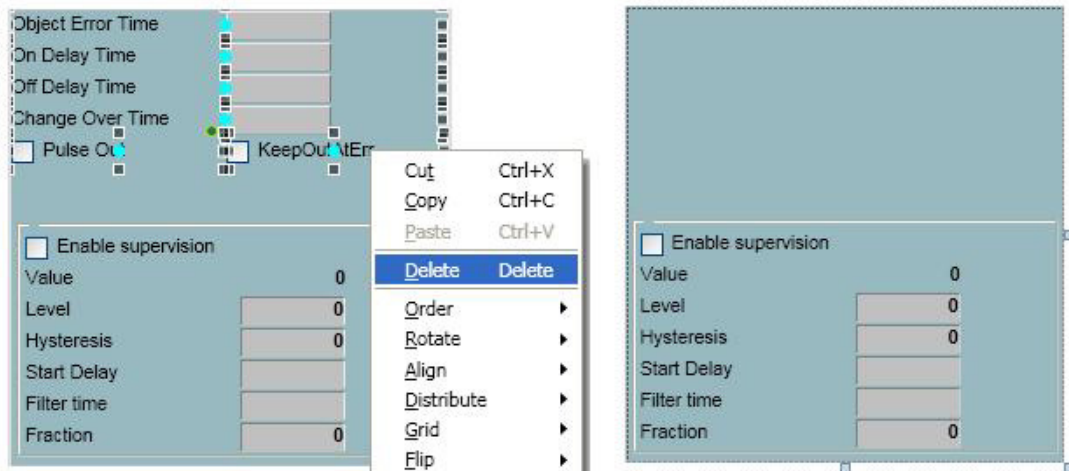

Figure 256. Deletion of a graphics element
6. To display graphics only for the level detection values, right click on the graphics to be removed (graphics other than those for level detection), and select **Delete**, as shown in Figure 256.